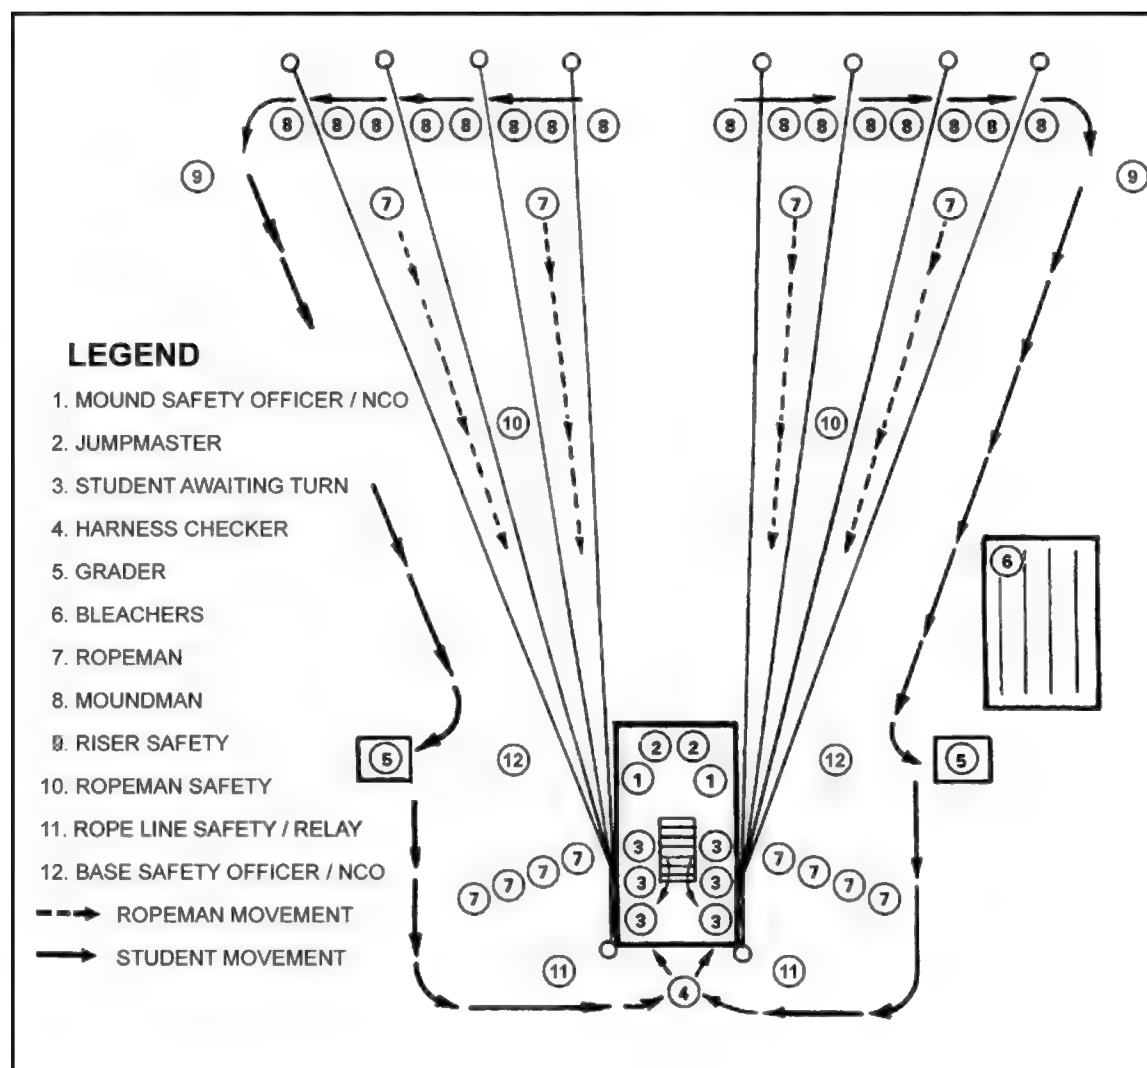

Figure 4-10. Tower personnel positions.
a. **Instructors.** A minimum of seven instructors are required to operate this apparatus. Their positions are indicated in Figure 4-10 (page 4-16).
- (1) Two JMs hook up students in the tower and issue the last two jump commands.
- (2) One harness checker inspects all harnesses before students exit the tower.
- (3) Two graders on the ground critique and grade the students' performance on the apparatus.
- (4) Two mock door instructors correct students on problem areas and give them additional practice.